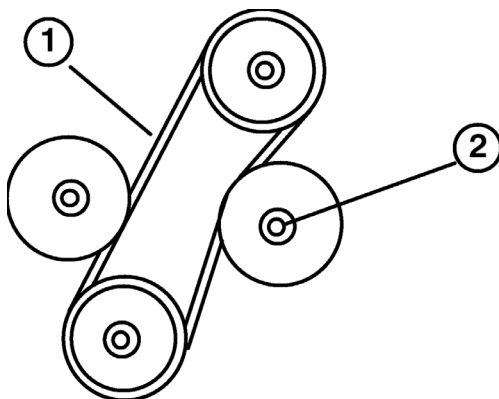

Figure 35
3. The belt should deflect $\frac{1}{4}$ in. (6 mm) midway between the pulleys with 5 lb. force (22 N•m) (Fig. 35). If deflection is incorrect, go to step 4. If correct, go to step 5.
2. Loosen the locknut securing the adjustable idler pulley, slide the pulley away from the belt, and remove the belt from the pulleys (Fig. 35).
3. Install the new belt and adjust its tension. Push the idler pulley against the belt until the belt deflects $\frac{1}{4}$ inch (6 mm) with 5 lb. of force (22 N•m) midway between the top pulley and stationary idle pulley. Tighten the idler pulley locknut to secure adjustments (Fig. 35).